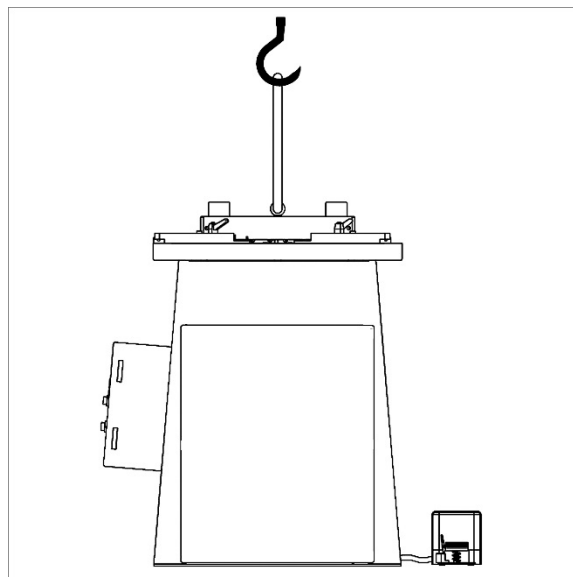

Figure 5-1: lifting the machine
3. Use forklift or hoist with straps to carefully move the machine off the pallet and into position (Figure 5-1). **Lifting equipment must be properly rated for weight of machine.**